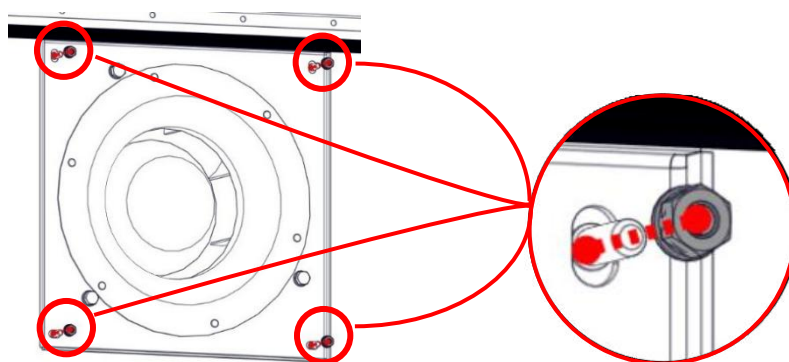

Figure 38 – Unscrew fan fixed nuts.
2. Unscrew fan fixed nuts, as show in the figure 38.